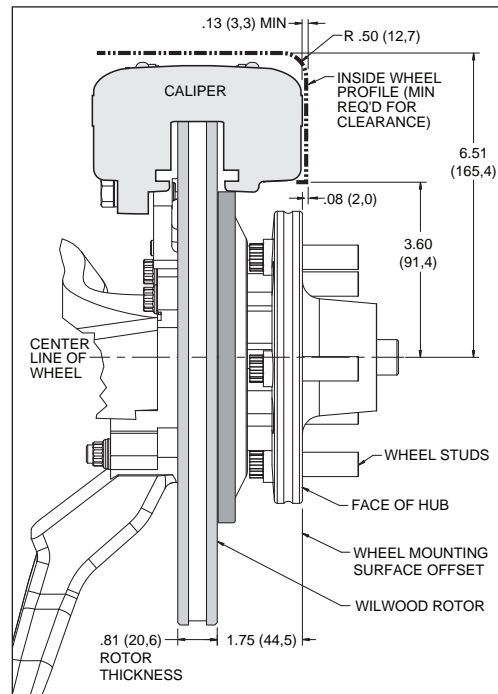

Figure 3. Wheel Clearance Diagram
- Verify wheel clearance using Figure 3.
- WARNING:** *The wheel contact surfaces must seat completely on the face of the hub.* If any contact surfaces overhang the outside diameter of the hub face, a 6.60" diameter x .20" thick steel spacer (item 24, Wilwood P/N 300-11961) **MUST** be used between the wheel and the hub.